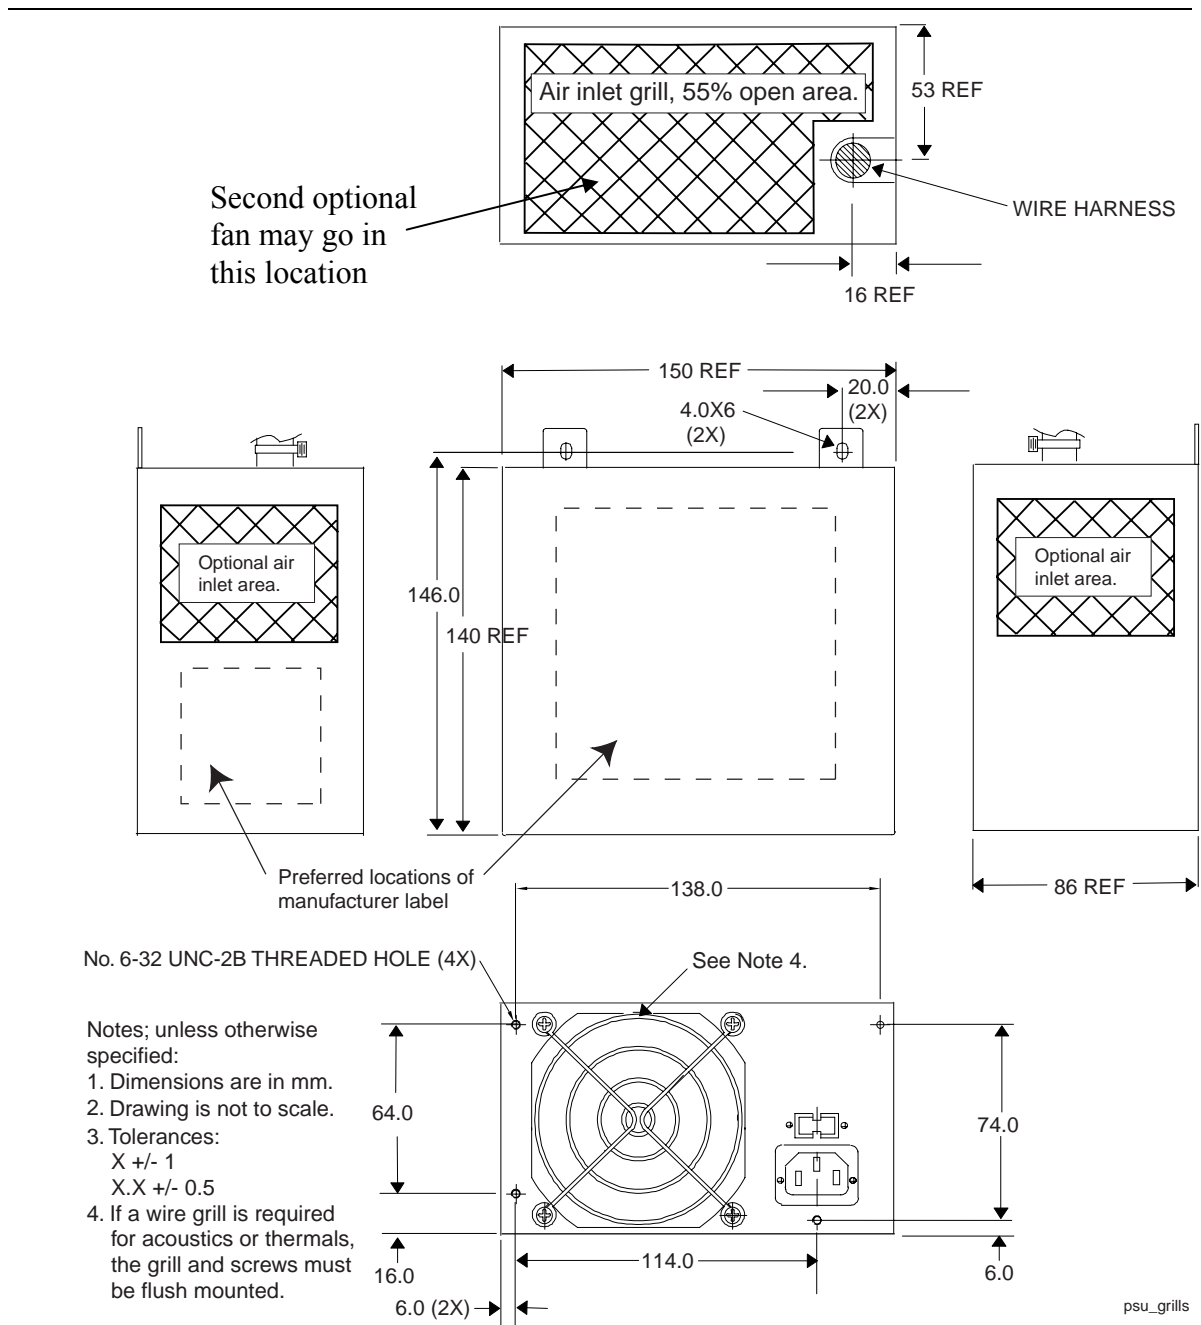
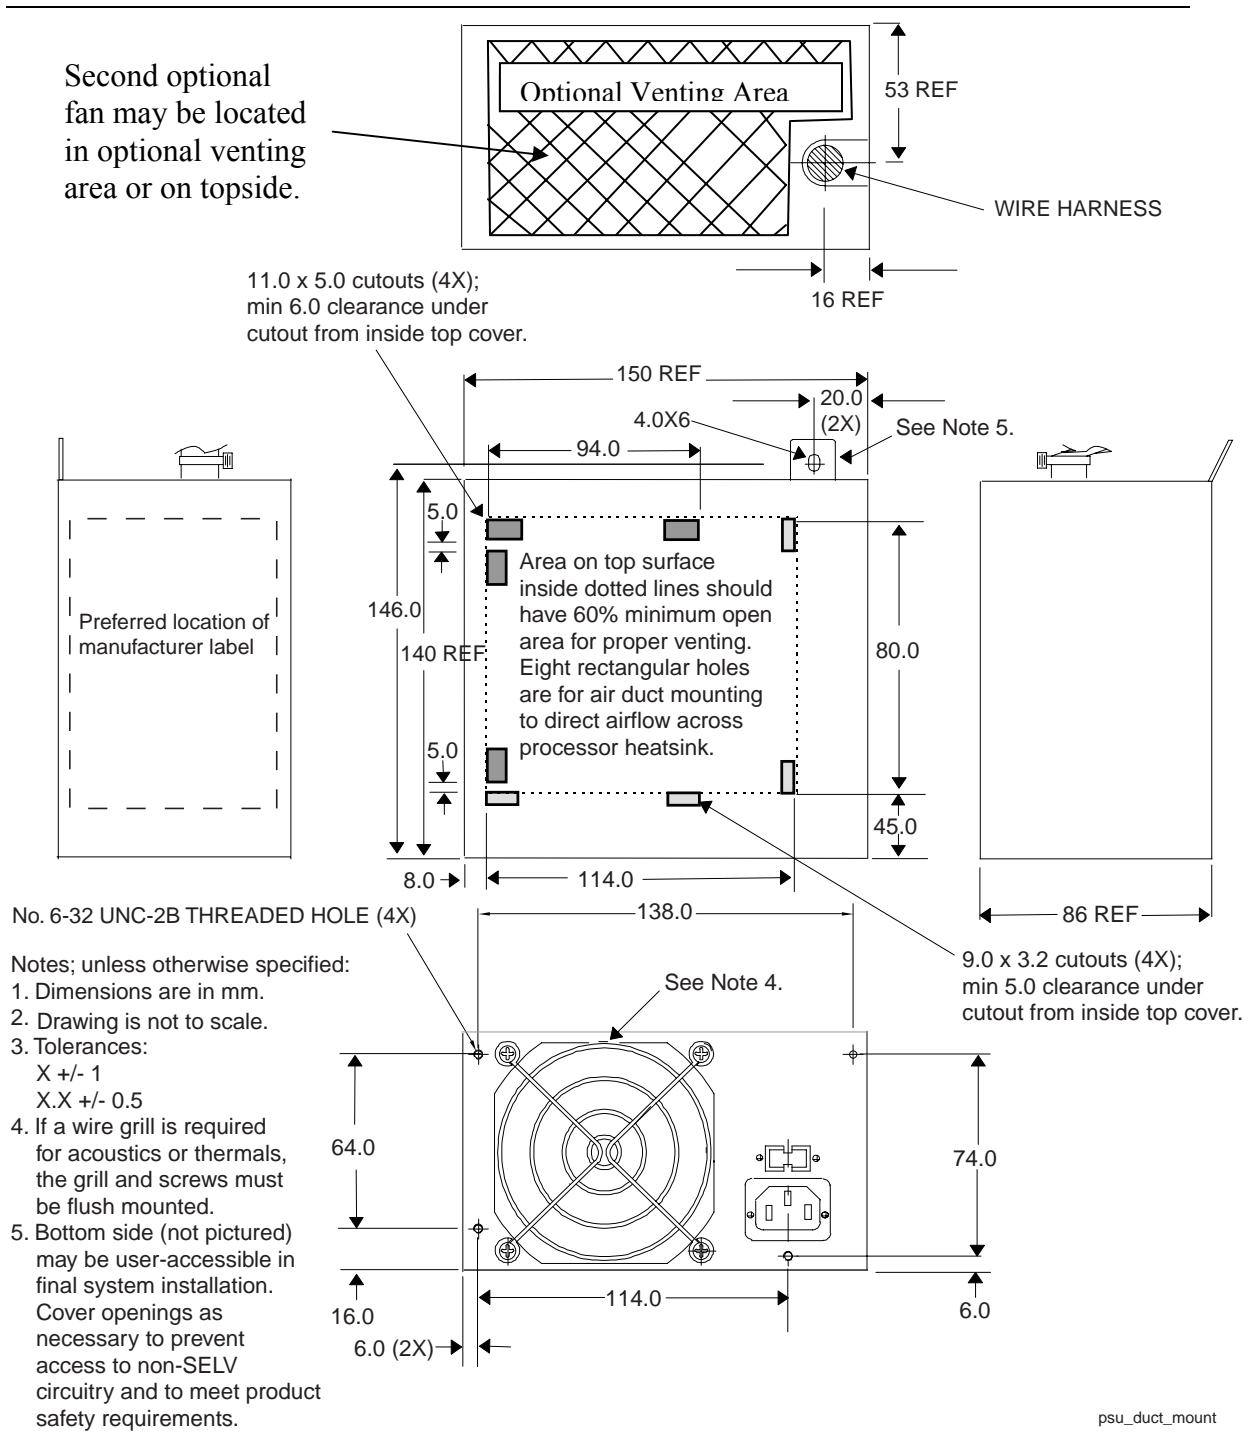

Figure 9. Power Supply Dimensions for Chassis That Does Not Require Top Venting
Figure 10. Power Supply Dimensions for Chassis That Require Top Venting
The supply shall be enclosed and meet the physical outline shown in either Figure 9 or Figure 10, as applicable.
- The venting shown in Figure 9 provides the most effective channeled airflow for the power supply itself, with little regard for directly cooling any system components. This venting method is nearly always used in conjunction with a fan that exhausts out the rear of the power supply.
- The venting shown in Figure 10 allows designers to more directly couple the power supply airflow to system components such as the processor or motherboard core, potentially cooling all critical components with a single fan. Both the power supply fan location and direction may vary in this case. The trade-off is usually one of reduced system cost versus narrower design applicability.